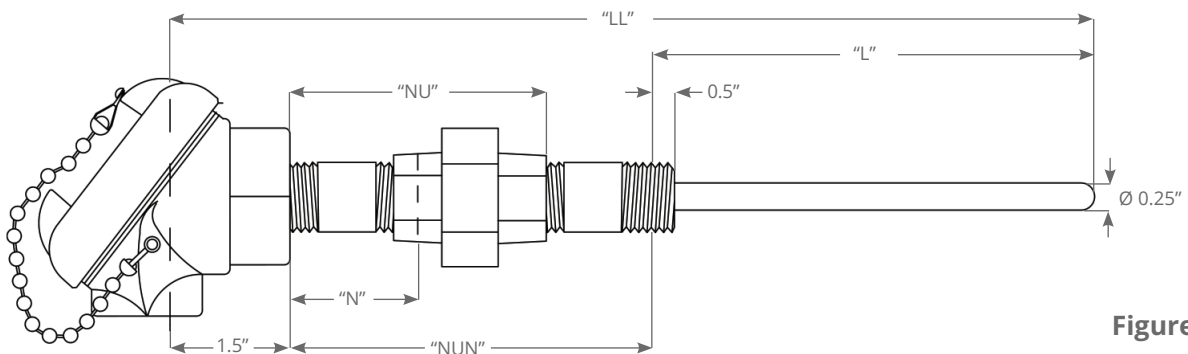

Figure 2
- 1 The overall sensor housing dimension "LL" is the sum of three numbers (See Figure 2):
- B. the thermowell bore length ("L" in Fig. 2) (sometimes referred to as the "A" dimension by well manufacturers)